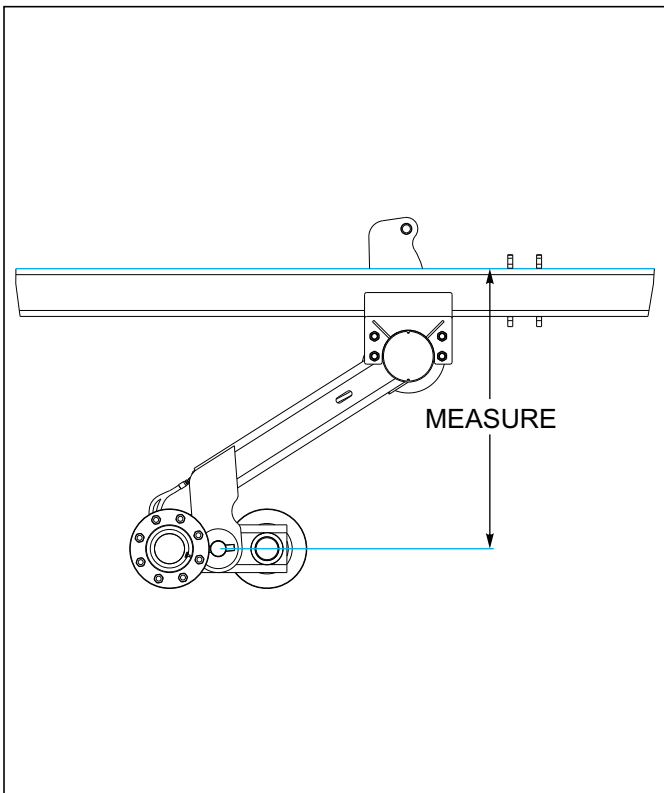

Figure 4-5: Leveling from Side to Side
3. Lay a straight edge across the top of the frame and measure from the top of the frame to the top of the walking beam spindle of both center frame axles. If the measurements are more than 1/4" different, the cylinders will need adjusted (**See Figure 4-5.**)